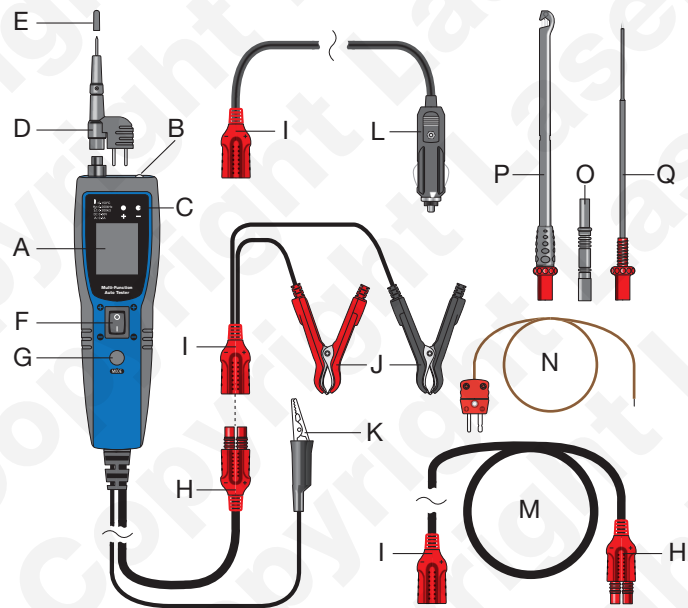

Fig:1
- Refer to Figure 1: Connect the power clips (J) to the tester via the connectors (H & I). If necessary, use the 6 metre extension cable M (if, for example, the vehicle battery is located in the boot/trunk area).
- The auxiliary ground connector (K) is used to connect to the negative side of the test object for certain test operations.
- Press the MODE button (G) to select desired test function: voltage, signal frequency and voltage, resistance or DC current. (Short press of the MODE button selects function — long press switches between Celsius and Fahrenheit temperature measurements.)
- 1. Refer to Figure 1: Press the power-probe supply switch (F) forward (+) to supply positive voltage to the test probe; the positive polarity indication light (C) will light red.
- 2. Press the power-probe supply switch (F) backward (-) to supply negative voltage to the test probe; the negative polarity indication light (C) will light green.